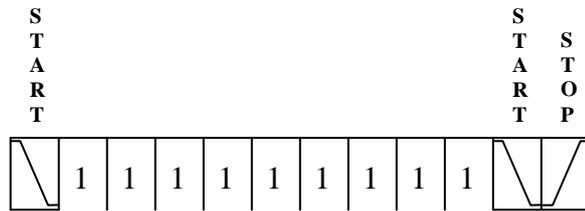

Figure5: Software reset
- 2) Master device sends a START condition while the EEPROM is acknowledging a WRITE instruction and is driving SDA low, even though the master device sends nine sequential bits “1”, the EEPROM cannot be reset. In this case, master device need to send a START condition after nine sequential bits “1” to make EEPROM reset, Shown in figure 5.